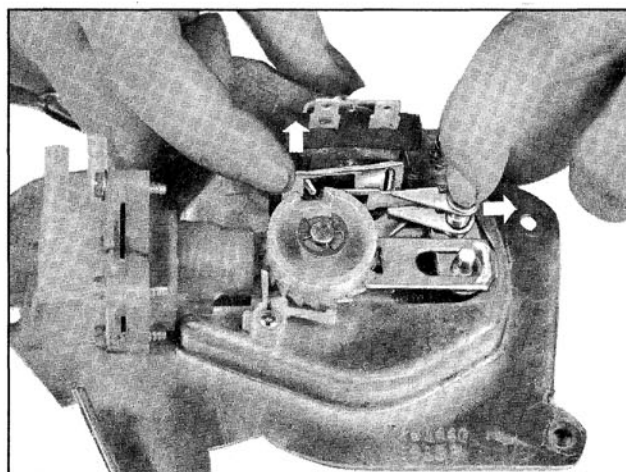

Fig. 13-163 Disengaging Pawl
4. Move cam lever to the rear and lift up on armature as shown in Fig. 13-163.